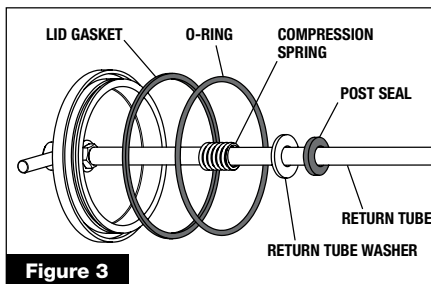

Figure 3
- 6 Remove the top post seal and return tube washer and retain (**figure 3**).
- 7 Remove lid O-ring and lid gasket and retain (**figure 3**).
- 12 Carefully install the O-ring and lid gasket into lid (**figure 3**).
- 13 Slide the top return tube washer, then the post seal on to the return tube (**figure 3**).